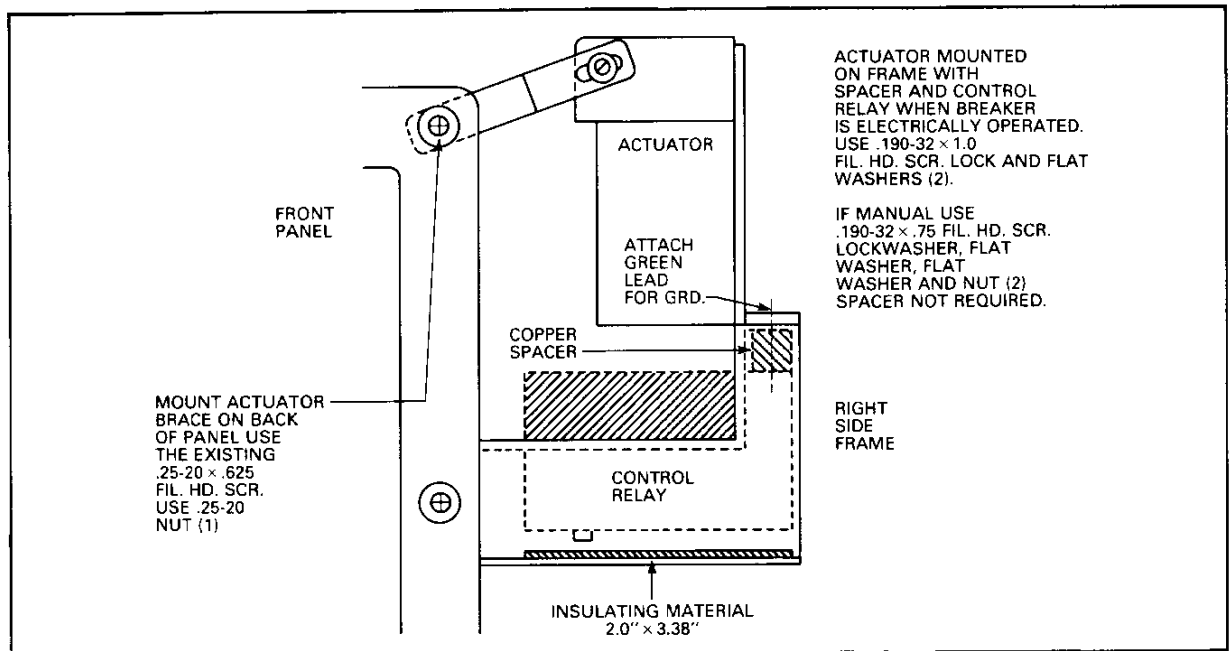

Fig. 6
Step 4: Place the insulating material 2" x 3.38" under where the terminals of the control relay will be. Fig. 6. Secure with adhesive.
Step 6: Secure the cross brace between the actuator and the existing .25-20 x $\frac{5}{16}$ " phillips head screw located on top right of the front panel, using a .25-20 nut. See Fig. 6.